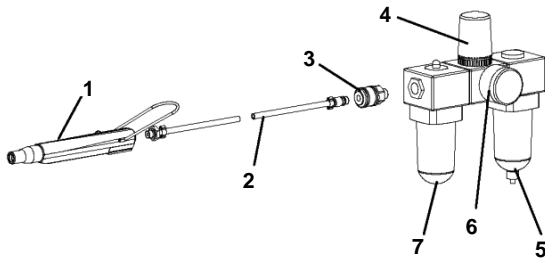

Fig. 1: Connection
- BIAx pneumatic screwdrivers (1) together with the hose unit (2) are connected to the maintenance unit (4) via the one-hand clutch (3).
- In this case, pay attention that the maintenance unit is assembled in the following sequence: water separator (5), pressure manometer (6), oil mister (7) (refer to Fig. 1:).